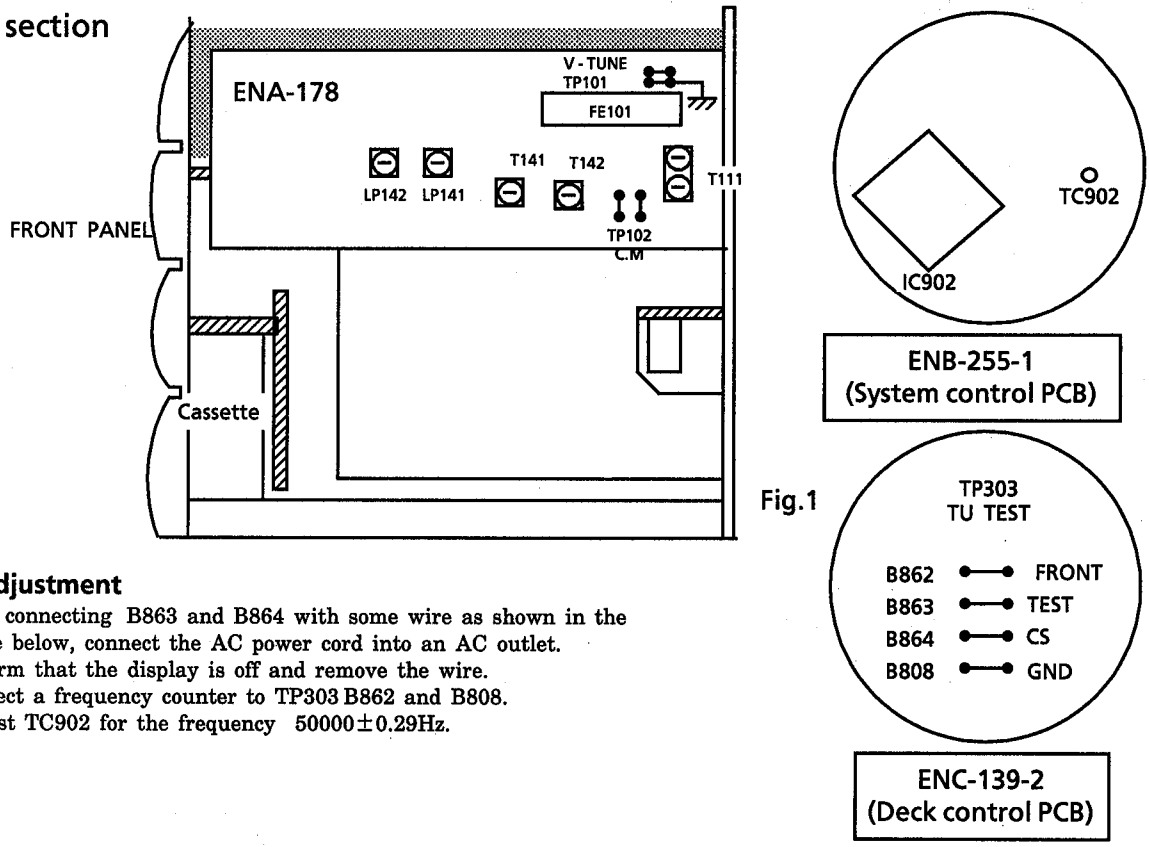

Fig.1
(2) Life of the laser diode (Fig.1)
(Fig.1)